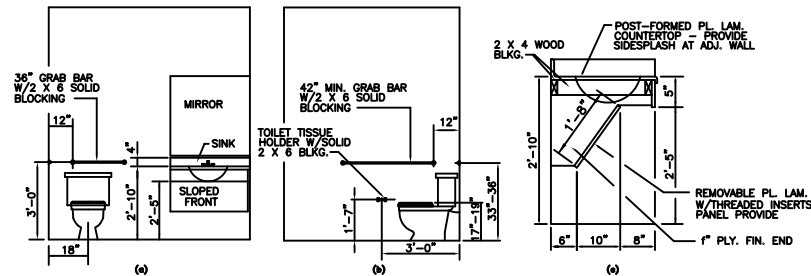

FIG. 31 LAVATORY & WATER CLOSET CLEARANCES
- 4.16.3 HEIGHT.** THE HEIGHT OF WATER CLOSETS SHALL BE 17" TO 18" (430mm TO 457mm), MEASURED TO THE TOP OF THE TOILET SEAT. SEATS SHALL NOT BE SPRUNG TO RETURN TO A LIFTED POSITION (SEE FIG. 31).
- 4.16.4 GRAB BARS.** GRAB BARS FOR WATER CLOSETS NOT LOCATED IN STALLS SHALL COMPLY WITH 4.28 AND FIG. 31. THE GRAB BAR BEHIND THE WATER CLOSET SHALL BE 36" (915mm) MINIMUM.
- 4.16.6 DISPENSERS.** TOILET PAPER DISPENSERS SHALL BE INSTALLED WITH REACH, AS SHOWN IN FIG. 31. DISPENSERS THAT CONTROL, DELIVER, OR THAT DO NOT PERMIT CONTINUOUS PAPER FLOW, SHALL NOT BE USED.
- 4.17.6 GRAB BARS.** GRAB BARS MAY BE MOUNTED WITH ANY DESIRED METHOD AS LONG AS THEY HAVE A GRIPPING SURFACE AT THE LOCATIONS SHOWN IN FIG. 31 AND DO NOT OBSTRUCT THE REQUIRED CLEAR FLOOR AREA. GRAB BARS SHALL COMPLY WITH 4.28.
- 4.19.2 HEIGHT & CLEARANCES.** LAVATORIES SHALL BE MOUNTED WITH THE RIM OR COUNTER SURFACE NO HIGHER THAN 34" (863mm) ABOVE THE FINISH FLOOR. PROVIDE A CLEARANCE OF AT LEAST 28" (711mm) ABOVE THE FINISH FLOOR TO THE BOTTOM OF THE APRON (SEE FIG. 31).
- 4.24.2 HEIGHT.** SINKS SHALL BE MOUNTED WITH THE COUNTER OR RIM NO HIGHER THAN 34" (863mm) FROM THE FINISHED FLOOR (SEE FIG. 31).